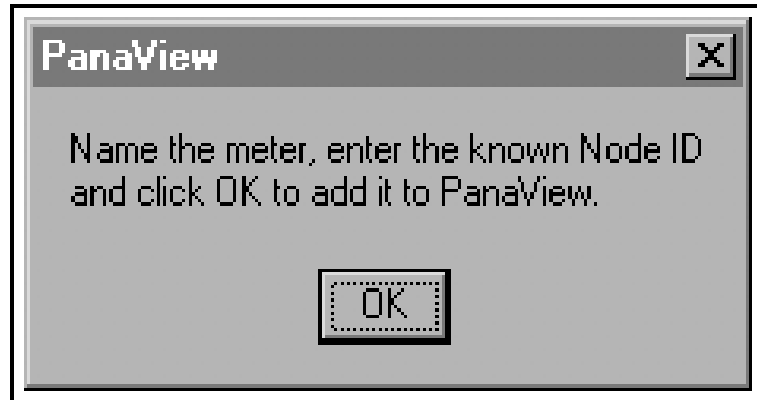

Figure 8: Confirmation Dialog Box
- At the dialog box shown in Figure 8 on the previous page, click on the **[OK]** option button to add the meter and configure it. The dialog box shown in Figure 9 below appears.